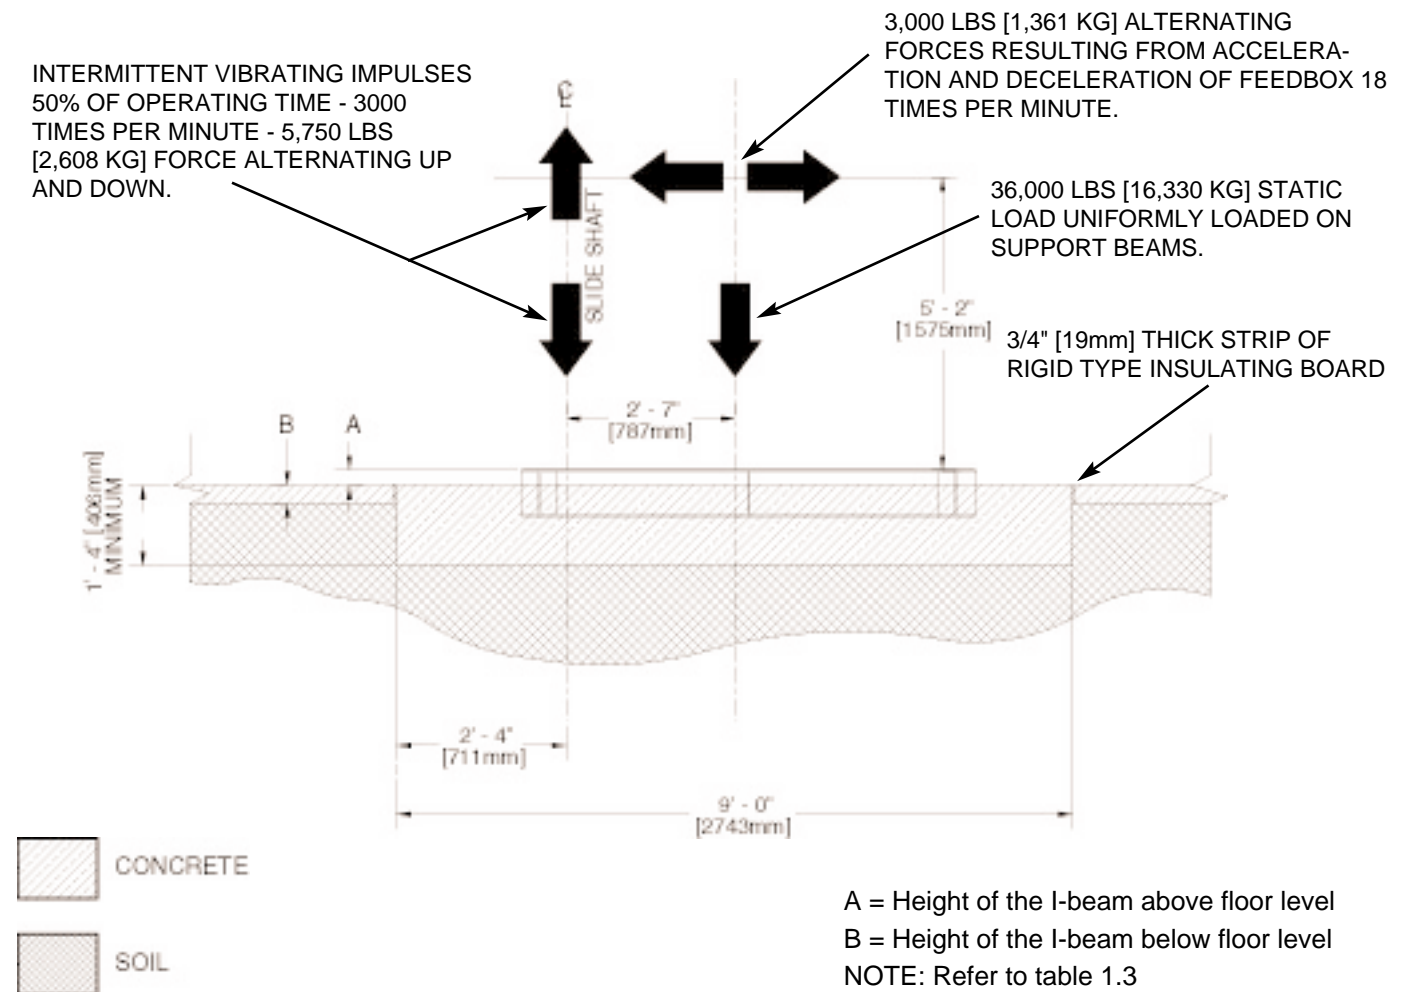

Figure 1.1 SIDE ELEVATION.
1. The framework should be prepared according to specifications presented in figure 1.1, 1.2 and 1.3.
3. The length, width and thickness of the foundation specified in figures 1.1 and 1.2 represent minimum dimensions. The VIBRAPAC foundation can be increased in length, width or thickness to accommodate existing soil conditions.